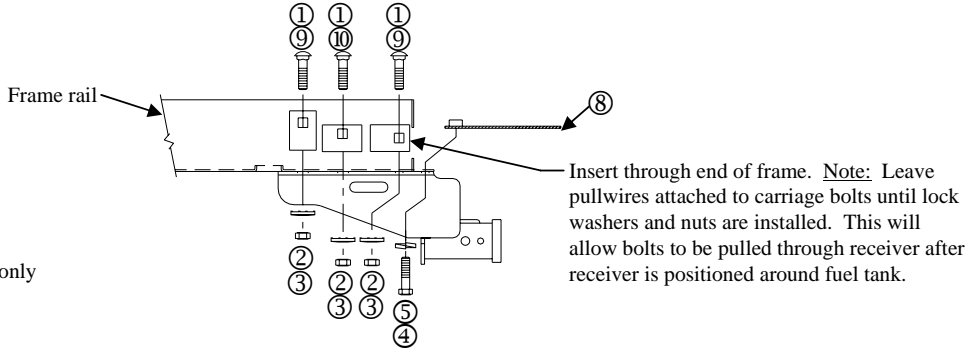

Figure 3
- A. Remove tow hook and tow hook bracket; Return component to vehicle owner. Mount driver's side of receiver using M12 bolts as shown in Figure 1. Mount passenger side of receiver as shown in Figure 3.
Option D – See Figure 3
- A. Using pullwire feed 1/4 X 1-1/2 X 2 blocks (Item 9 & 10) and carriage bolts through end of frame and into existing holes. Raise hitch into position and attach per Figure 3.